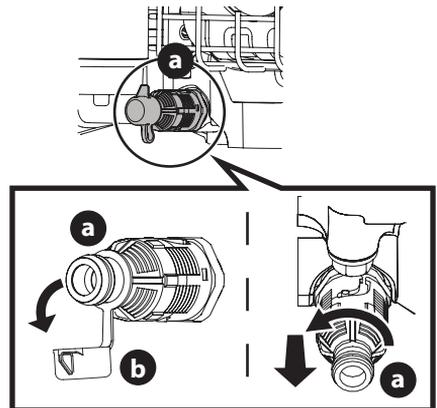

Figure 9
1. Locate the oil drain valve (a) and place a suitable container below the plug (Figure 9).